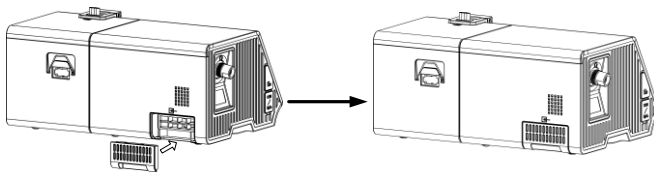

Fig. 11-2
(2) Install the filter cap containing the air filter to the device, as shown in Fig. 11-2.